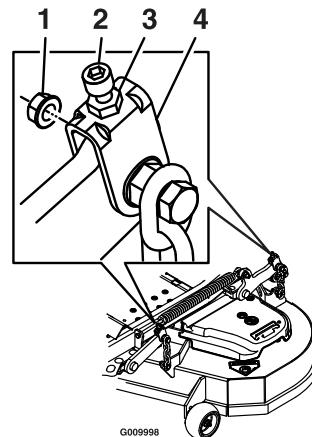

Figure 31
10. Loosen the whizlock nut on the side of the yoke and the jam nut on top. Fine tune the screw adjuster by turning it to get 3 inch (7.6 mm) height (see Figure 31).